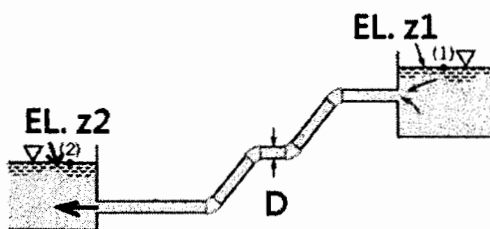
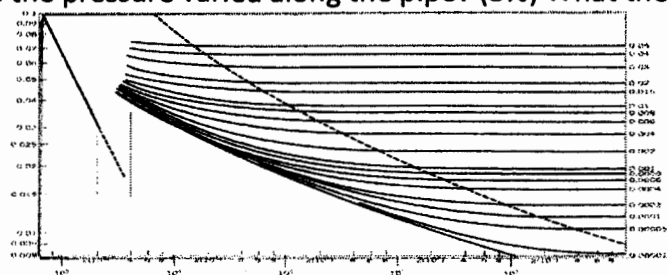

Fig 2a. Pipe system and two large tanks.
Fig 2b. Moody chart (a reminding without showing information)
2. As shown in Fig 2a, a pipe system of diameter D and total length L (friction factor f) with overall minor loss coefficient K_L connecting two large tanks of constant levels $z_1, z_2 (< z_1)$.
- (A) Determine the flowrate Q in pipe; (5%)
- (B) Sketch the HGL and EL from tank A to tank B; (5%)
- (C) For engineering practice, the friction factor f is determined from the Moody chart (as Fig 2b). Describe how the values of abscissa affect the value of f at various flow features; (5%) What condition(s) of the pipe is considered as hydraulically smooth? (2%) What condition(s) of the flow as wholly turbulent? (3%)
- (D) When flow in the pipe becomes fully developed, compare the flow velocity across the pipe section between lamina and turbulent flow; (5%) What is the pressure varied along the pipe? (3%) What the shear stress on the wall (2%)